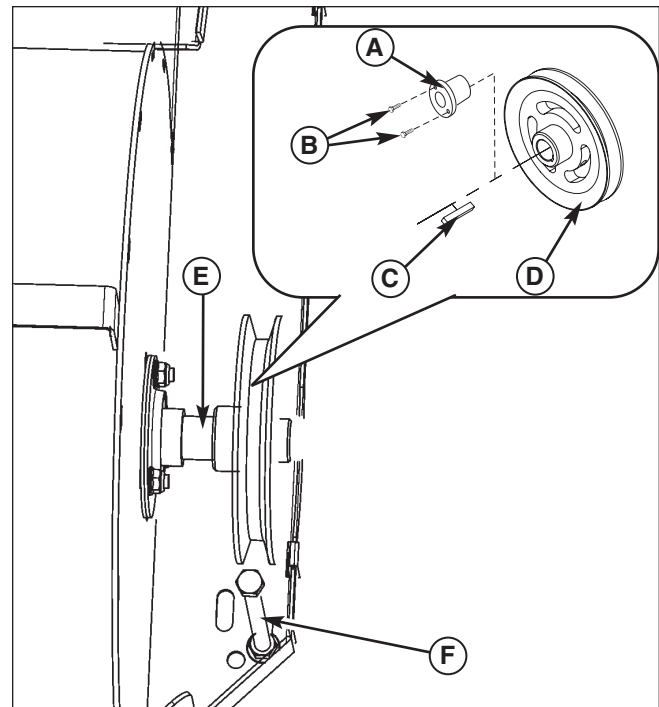

Figure 12. Install Impeller Drive Pulley (IS4500Z Models Only)
- Loosely install the tapered hub (A, Figure 12) into the blower pulley (D). Install the blower pulley onto the impeller shaft (E) and slide the blower pulley in towards the blower assembly.
- Position the new blower drive belt (B, Figure 12) in the blower drive pulley.
- Position the blower pulley (D, Figure 12) so it is center with the belt keeper bolt (F). Install the 1/4" X 1-1/2" long key (C) into the blower pulley (D).
- Install the two (2) 1/4-20 X 1" bolts (B) into the tapered hub (A) and tighten evenly. Torque the 1/4" bolts to 8 ft. lbs. (10,9 Nm).